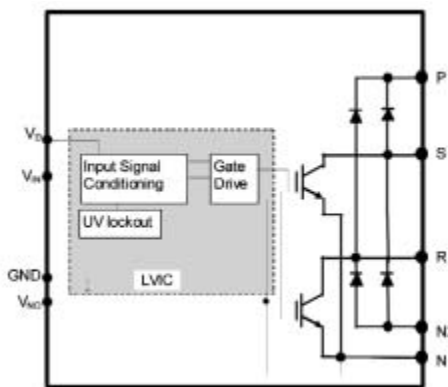

Figure 8: Internal block diagram of DIPFPC™
The internal circuitry of Mini DIPFPC comprises two IGBT chips, four diode chips and LVIC driver, which is the same as the Large DIPFPC. The LVIC is designed with necessary functions such as IGBT drive, control power supply, under voltage (UV) lockout circuit. Figure 8 shows the internal circuit of Mini DIPFPC.